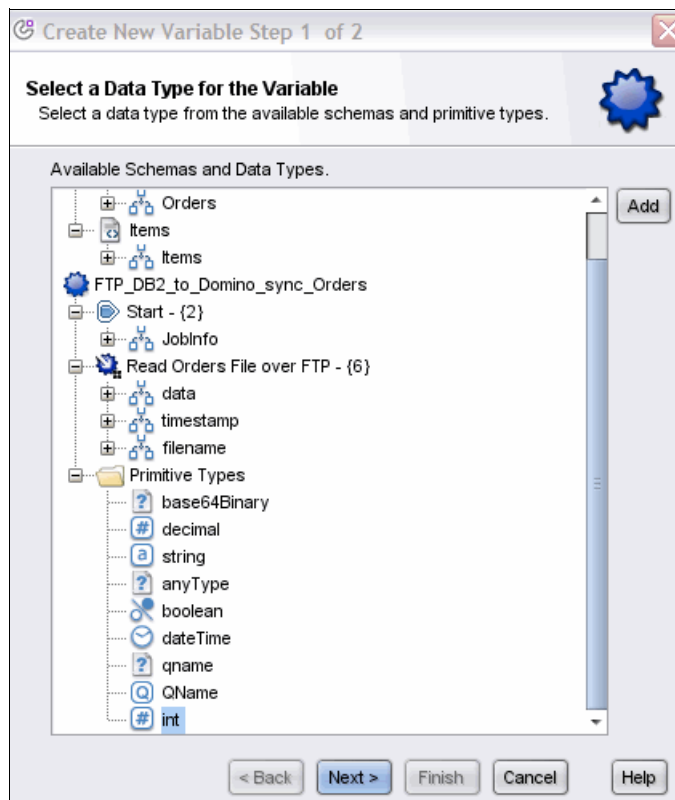

Figure 12-42 Selecting a type for a variable
- b. In the window that opens (Figure 12-42), select **int** as the data type, and click **Next**.